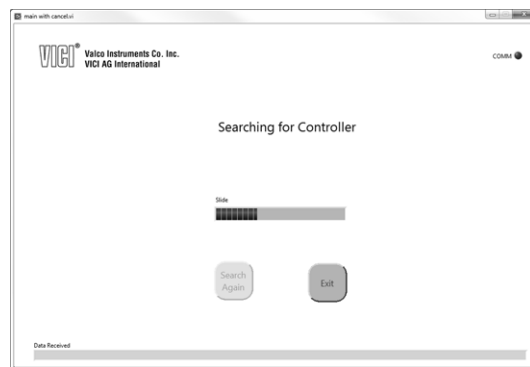

Figure 3: The GUI is attempting to establish communication with the FTP controller
- it. After the splash screen, the screen in **Figure 3** will appear.